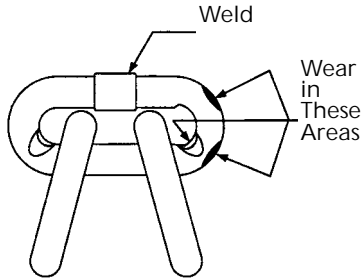

Figure 6 - Chain Inspection
1. Chain for excessive wear or stretch (See Figures 6 and 7, page 6) - every three months.